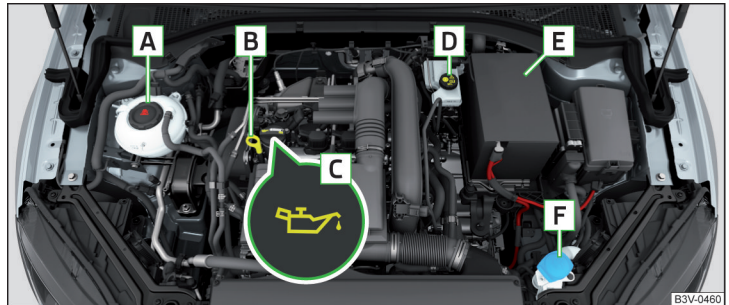

Fig. 316 Arrangement example in the engine compartment
- › Unscrew the cap of the engine oil filler opening **C** » Fig. 316 on page 268.